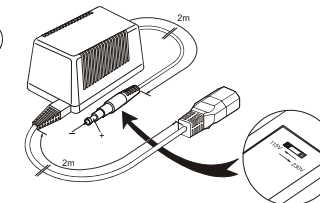

Fig. 2. PM8907
- PM8907/808 Power Adapter (Fig. 2)
**Before you connect the PM8907/808 to the local line, first check the preselected voltage setting on this unit. You can find the voltage selector switch on the bottom of the PM8907/808. If necessary, select the corresponding line voltage with the slide switch and ensure that the proper voltage is visible in the window of the slide selector. (see Fig. 2.)**